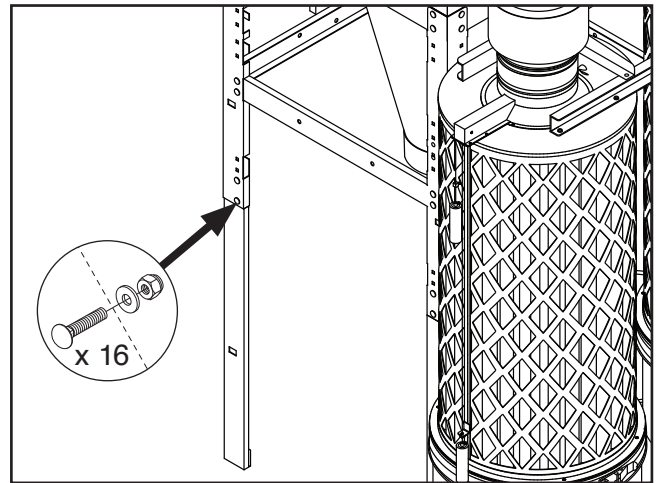

Figure 26. Attaching lower legs to the initial stand assembly.
23. Using forklift, raise assembly up and attach lower stand legs to upper stand legs, as shown in **Figure 26**, using (16) $\frac{5}{16}$ "-18 x $\frac{3}{4}$ " carriage bolts, $\frac{5}{16}$ " flat washers, and $\frac{5}{16}$ "-18 hex nuts.